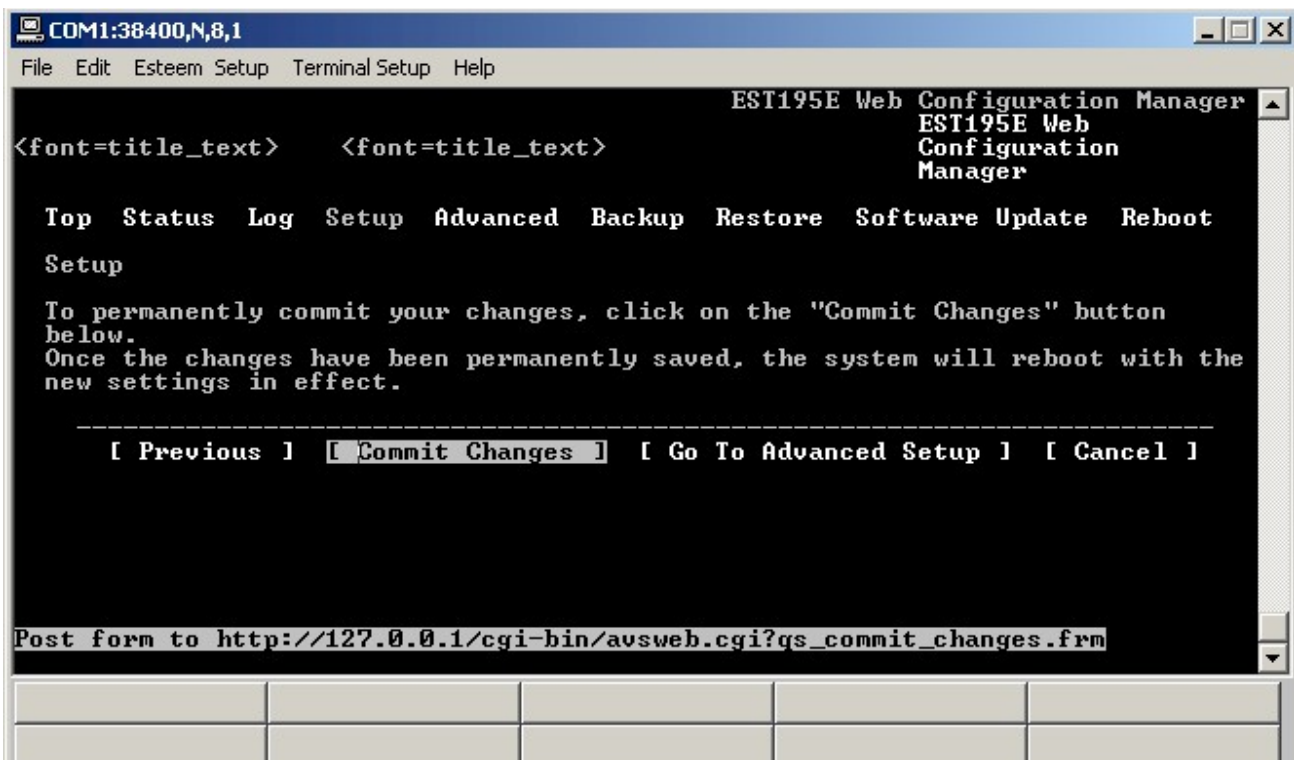

Figure 13: Commit Changes Screen
14. After the basic parameters have been entered into the Model 195Ep you will need to commit the changes to the Model 195Ep (Figure 13). The changes will be saved to flash memory. You can use programming features in the ESTeem Web Configuration Manager to configure the unit for your application. Proceed to Chapter 4.